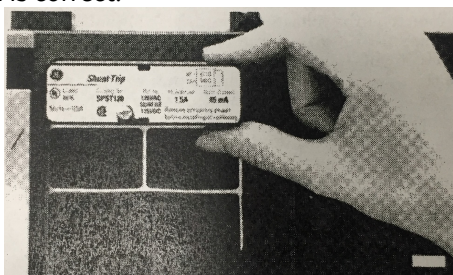

Figure 4. Inserting a Shunt Trip into the accessory compartment.
3. Insert the Shunt Trip accessory into the proper slot, as illustrated in Figure 4. The Shunt Trip accessory is keyed for the correct slot in the accessory compartment. If the accessory cannot be fully seated in the compartment, check that the compartment position is correct.